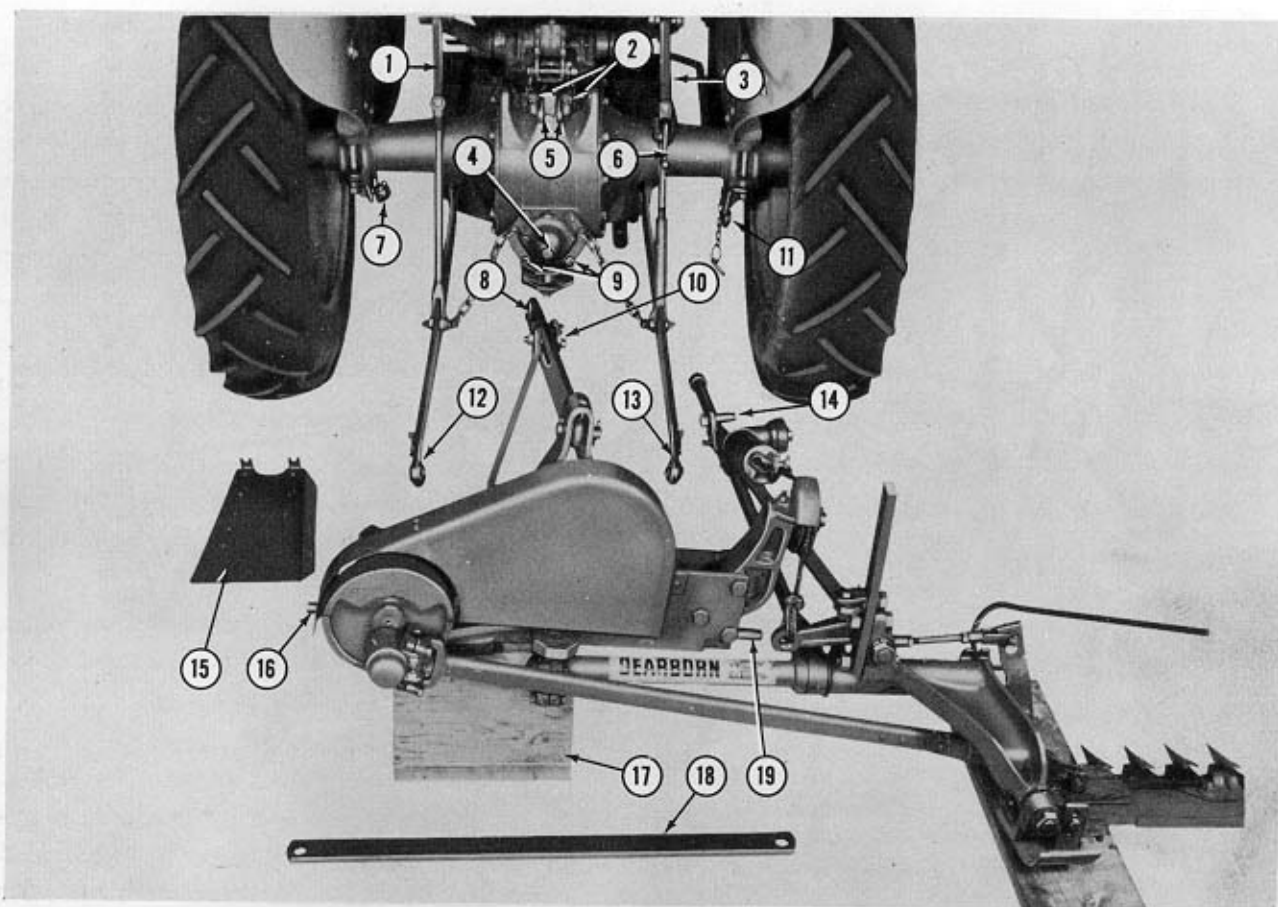

Figure 18
2. Attach the left hand anchor bracket (7) and the right hand anchor bracket (11) to the tractor rear axle housing with fender bolts as shown in Figure 18.
3. Attach the extension arms (1) and (3), Figure 18, between the tractor lift arms and the tractor leveling rods as shown.
4. Attach the mower top link bracket (5), Figure 18, to the lug on the tractor center housing with the pin and cotter pin provided. Tighten the two set screws (2) against the rocker assembly and secure with jam nuts.
5. Back the tractor up to the mower with the tractor lower links aligned with the pins (16) and (19), Figure 18. Stop the tractor about one foot from the mower to avoid knocking the mower off the block and shut off the tractor engine.
6. Roll the tractor back slowly guiding the upper link (8), Figure 18, up to the bracket (5). Align the right lower link (13) with the pin (19) by turning the leveling crank (6). Attach the link to the pin and secure with linch pin.
7. Attach the pull bar bracket pin (14) to the right hand anchor bracket (11). Secure with linch pin.
8. Align the left lower link (12), Figure 18, with the pin (16) by turning the leveling crank (6) and place the link on the pin.
9. Attach the forward end of the stabilizer bar (18), Figure 18, to the left hand anchor bracket pin (7) and secure with linch pin. Level the mower main frame with the tractor leveling crank. Attach the rear end of the stabilizer bar to the pin (16) and secure with linch pin.
10. Attach the mower upper link (8), Figure 18, to the bracket (5) with the pin and linch pin provided.
11. Raise the mower with the Ford Tractor Hydraulic Touch Control lever. Lock the mower upper link anchor straps with the lock (10), Figure 18, and shut off the tractor engine.
12. Remove the block (17), Figure 18, from under the mower, disengage the P.T.O. lever, and remove the P.T.O. cap (4) from the tractor.
14. Bolt the mower drive shaft guard (15), Figure 18, to the tractor with the two bolts (9). Engage the tractor P.T.O. lever and lower the mower to the ground.
NOTE: It may be necessary to remove the left hand anchor bracket (7), Figure 18, the right hand anchor bracket (11) and the top link bracket (5) from the tractor. However these items are normally left on the tractor.